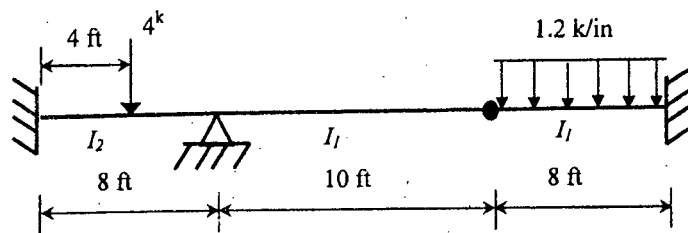

Fig. 4
3. (a) Write down the stiffness equations in matrix form for the beam shown in Fig. 4. Given: $E = 3,000 \text{ ksi}$, $I_1 = 10,000 \text{ in}^4$, $I_2 = 7,500 \text{ in}^4$. (15)